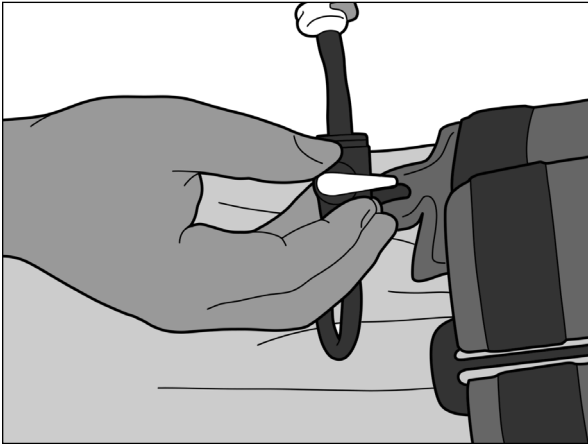

Fig. 14
1. Verify shutoff valve is perpendicular to tubing (Fig. 14).